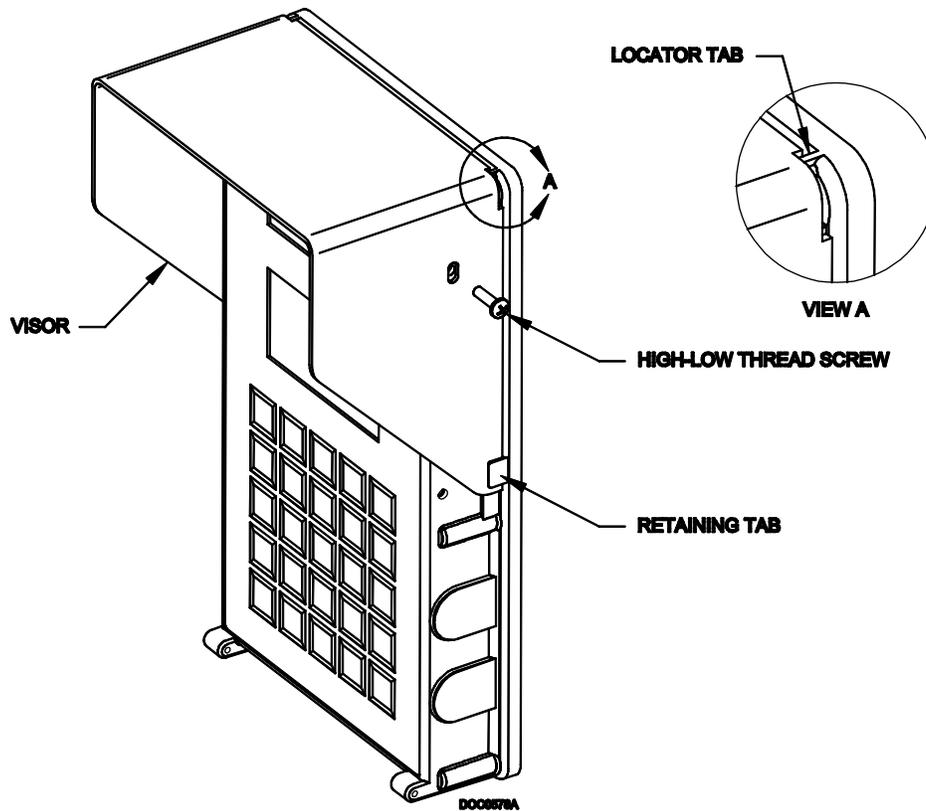

Figure 4-9. Visor Mounting
1. Place the visor onto the upper portion of the ROC Keypad Display. Make sure the visor fits into the retaining tabs. Refer to Figure 4-9.
2. Insert a small screw (provided) into the hole on the visor and hole in one side of the ROC Keypad Display. Refer to Figure 4-9.